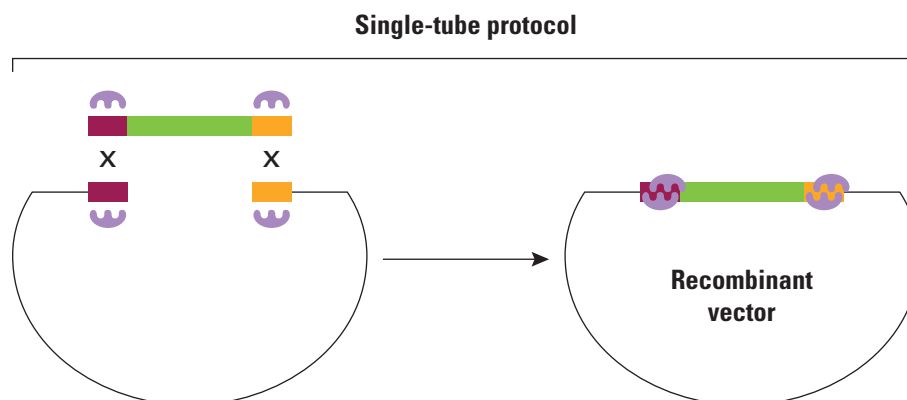

Figure 5. Simple, one-step cloning with In-Fusion PCR Cloning Kits.
- One-step directional cloning (Figure 5)